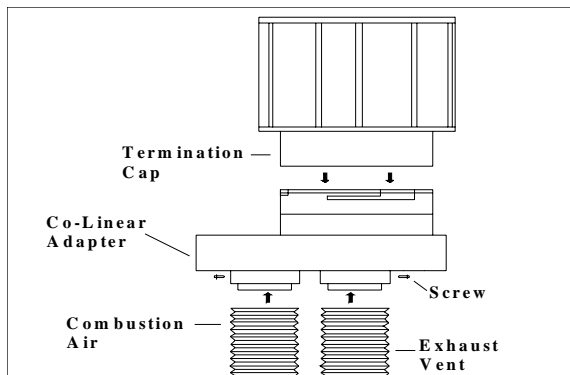

Figure 3 - Connecting the Co-linear Adapter
- 6) Attach the liner to the co-linear adapter (see fig. 3).